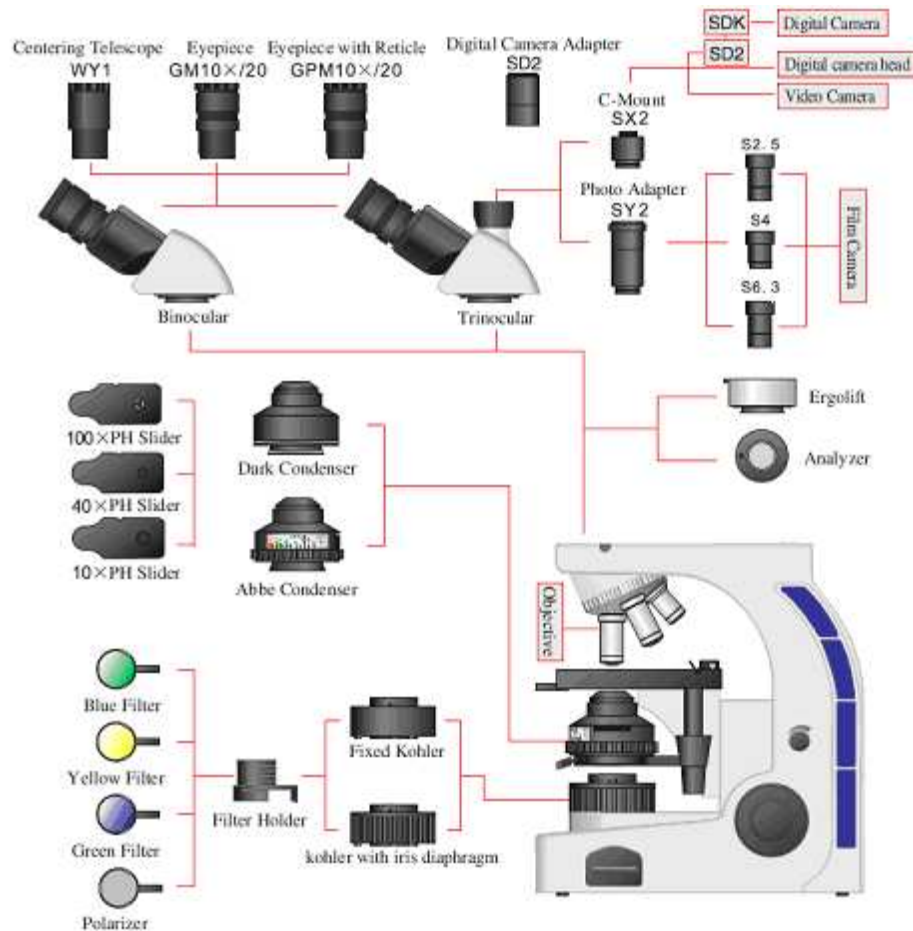

Fig.4
2.2.6 Mounting the Filter(Figs. 4、 6&7)